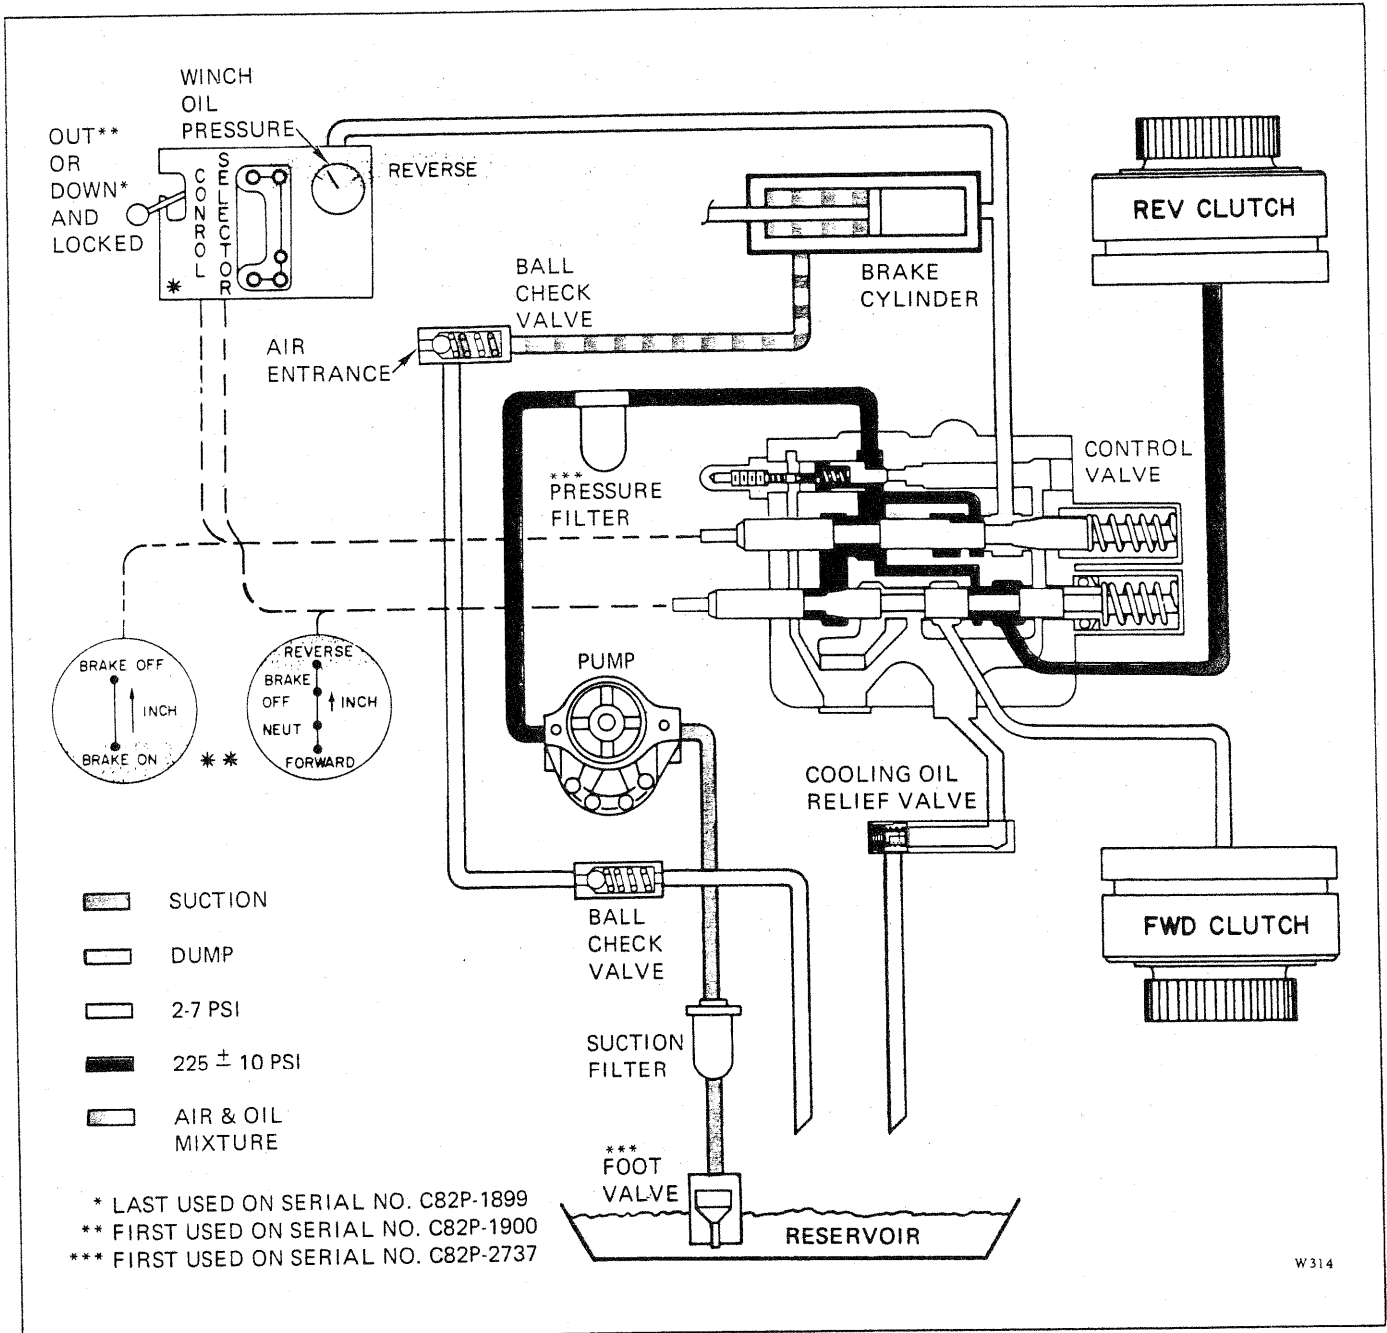

FIGURE 1-23. HYDRAULIC FLOW DIAGRAM, REVERSE INCHING, BRAKE APPLIED
1-44. HYDRAULIC SYSTEM IN REVERSE INCHING, BRAKE APPLIED. (See Figure 1-23.) On Early Production Handling Gear, the system is placed in REVERSE INCHING OPERATION by: (1) Moving the Control Lever Up and locking it in place and (2) Holding the Selector Lever in REVERSE. On the later Production Handling Gear, this is accomplished by: (1) Lifting the Stop Latch away from the Inching Lever which will allow the Inching Lever to spring-return to BRAKE ON and (2) Holding the Selector Lever in REVERSE. When the Control Lever is Up and locked or when the Inching Lever is in the BRAKE
and fill the cavities leading to the reverse clutch assembly and the brake cylinder. As shown in Figure 1-23, the entrance to the brake port is much smaller than the exit from the brake port. Therefore, the oil entering the brake port will not increase to a high pressure in that port. Pressure upstream of the brake port will continue to increase until it is relieved at the high pressure relief valve. This pressure engages the reverse clutch assembly. Overflow from the pilot-operated relief valve is regulated by the cooling oil relief valve. This low-pressure oil circulates to the forward clutch assembly to cool the clutch discs.